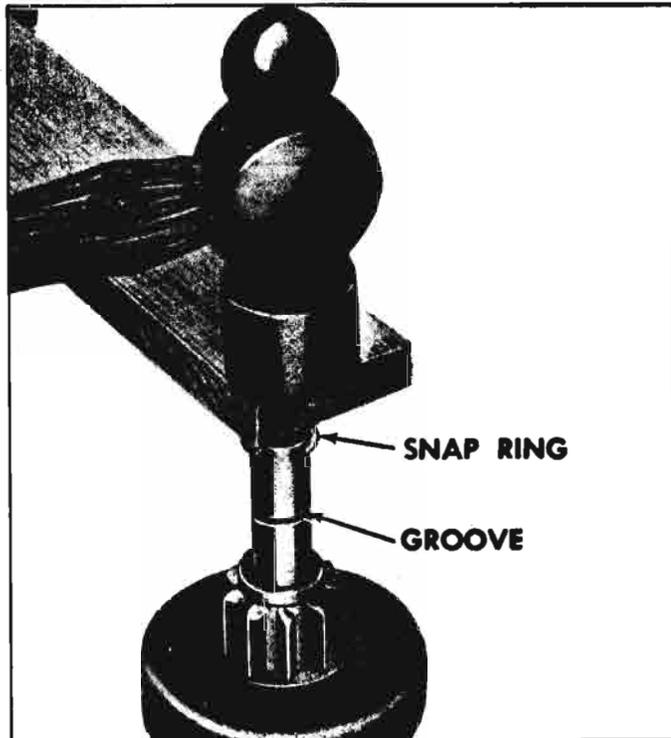

Fig. 8-47—Forcing Snap Ring Over Shaft
- d. Stand armature on end of wood surface with commutator down. Position snap ring on upper end of shaft and hold in place with a block of wood. Hit wood block a blow with hammer forcing snap ring over end of shaft (fig. 8-47). Slide snap ring down into groove.